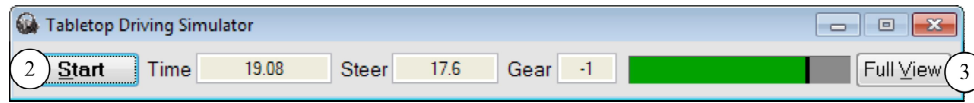

Figure 4. Tabletop Drive Simulator (compact view).
from VS Visualizer (Figure 4). You can restore the full view at any time with the **Full View** button (3).